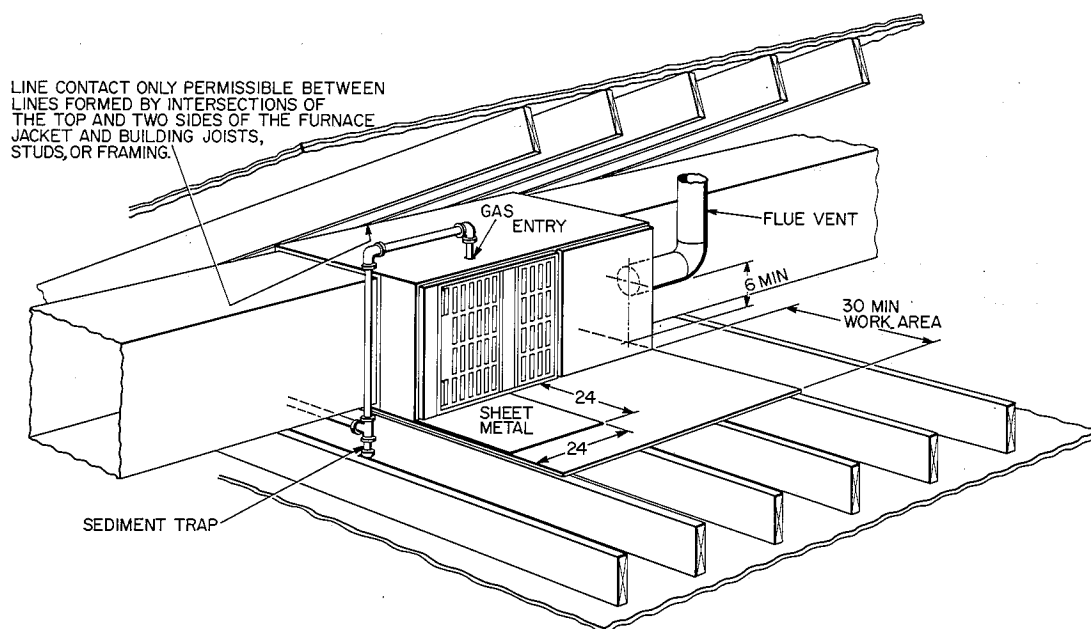

Fig. 7—Typical Attic Installation
The furnace can be installed horizontally on either the lefthand (LH) or righthand (RH) side. A typical attic installation is shown in Fig. 7.
1. Construct working platform on location where all required furnace clearances are obtainable. (See Table 1 and Fig. 7.)
2. Connect gas supply pipe; see Fig. 7 for typical piping entry.
- Install 24- x 24-in. sheet metal shield on platform in front of louvered control panel, as shown in Fig. 7.